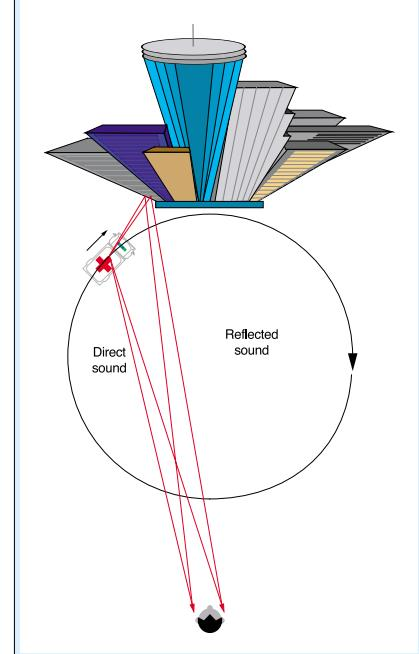
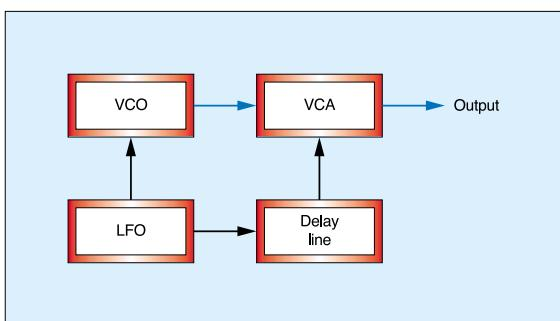
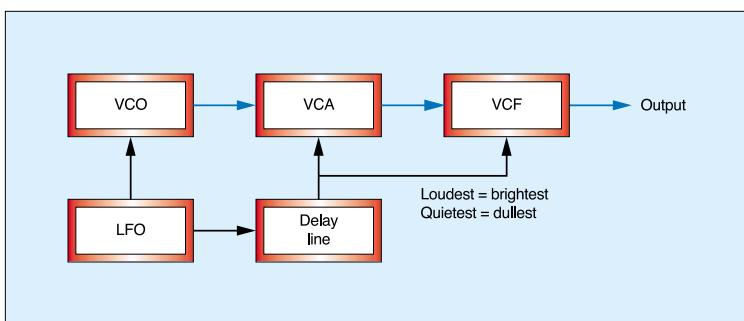

Figure 13: Reflecting the sound off an office block.
Figure 11: Recreating the phase and modulation characteristics of Figure 9.
Figure 12: Adding tone modulation to Figure 11.
▶ introduces the phase-shift between the frequency modulation and the amplitude modulation. Hooked together as in Figure 11 (below), these would generate a waveform exhibiting both vibrato and tremolo, but with the two 90 degrees (or some other desired amount) out of phase with one another.
pointing towards us, and duller when it points away. This suggests that the tonal modulation lies *in phase* with the loudness modulation, and that we can synthesize this — to a first approximation — by adding a low-pass filter modulated by the delayed LFO signal that is driving the VCA in Figure 11. The result looks like Figure 12 (see below).
However, even this is far from a description of a rotary speaker, because neither the horn nor the rotor in Figure 1 are rotating in free space. So let me return for a moment to the analogy of an ambulance stuck on a roundabout. Imagine that, on the opposite side of the roundabout, there's a large, reflective surface of some sort... say, a large office block (see Figure 13, above right). This will reflect back some of the siren's sound that would otherwise travel forever away from you, and you'll hear this mixed in with the direct sound.
We can synthesize Figure 13 in block-diagram terms as shown in Figure 15 (below). In this, I have added a second set of delay lines, filters and VCAs to Figure 12,
appears to be, it is in fact rather inelegant, with all of its individual VCFs, multiple delay lines, and all the signal paths' low-pass filters set to different cutoff frequencies. However, there's a bigger problem. In Figures 12, 15 and 17, we have been modulating the pitch of the sound source (the VCO) directly, rather than modulating any possible sound that we might want to affect. While this might be satisfactory for some organ sounds (for which we can modulate multiple VCOs to create a tonewheel/Leslie effect) it is unsuitable for synthesizing the complexities of, say, a guitar or human voice played through a Leslie speaker. To do this, we need to be able to input an external signal and effect this.